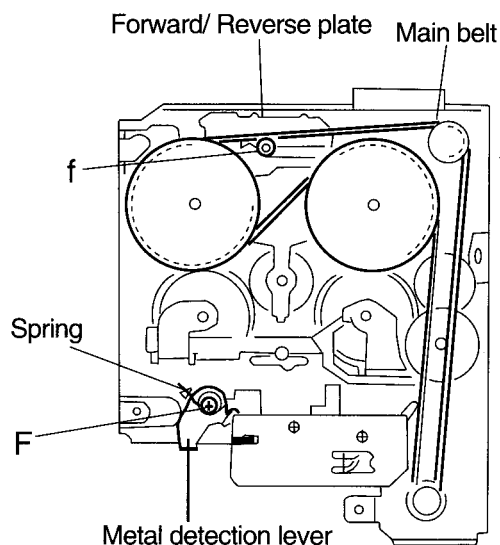

Fig. 8
■ Removing the Head Plate (See Fig. 8,9)
7. Remove the two screws *F* fixing the metal detection lever and removal spring as shown in Fig. 8.